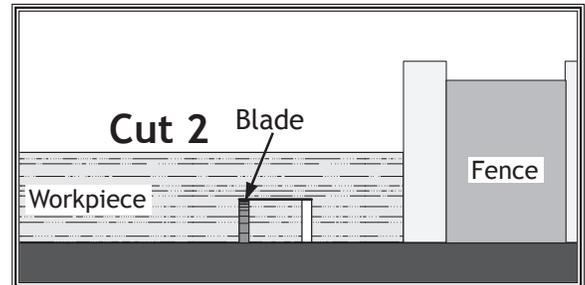

Figure 69. Second cut for a single-blade dado.
7. Repeat cutting operation on other side of dado, as shown in Figure 69.